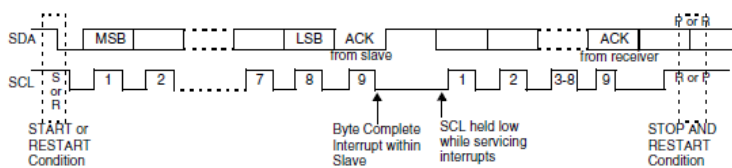

**Figure 80: Data transfer on the I2C Bus**
If the master (master-transmitter) is writing to the slave (slave-receiver), the receiver gets one byte of data. This transaction continues until the master terminates the transmission with a STOP condition. If the master is reading from a slave (master-receiver), the slave transmits (slave-transmitter) a byte of data to the master, and the master then acknowledges the transaction with the ACK pulse. This transaction continues until the master terminates the transmission by not acknowledging (NACK) the transaction after the last byte is received, and then the master issues a STOP condition or addresses another slave after issuing a RESTART condition. This behaviour is illustrated in Figure 80:
**Note 8:** The signal transitions for the START/STOP conditions, as depicted in Figure 80, reflect those observed at the output signals of the Master driving the I2C bus. Care should be taken when observing the SDA/SCL signals at the input signals of the Slave(s), because unequal line delays may result in an incorrect SDA/SCL timing relationship.